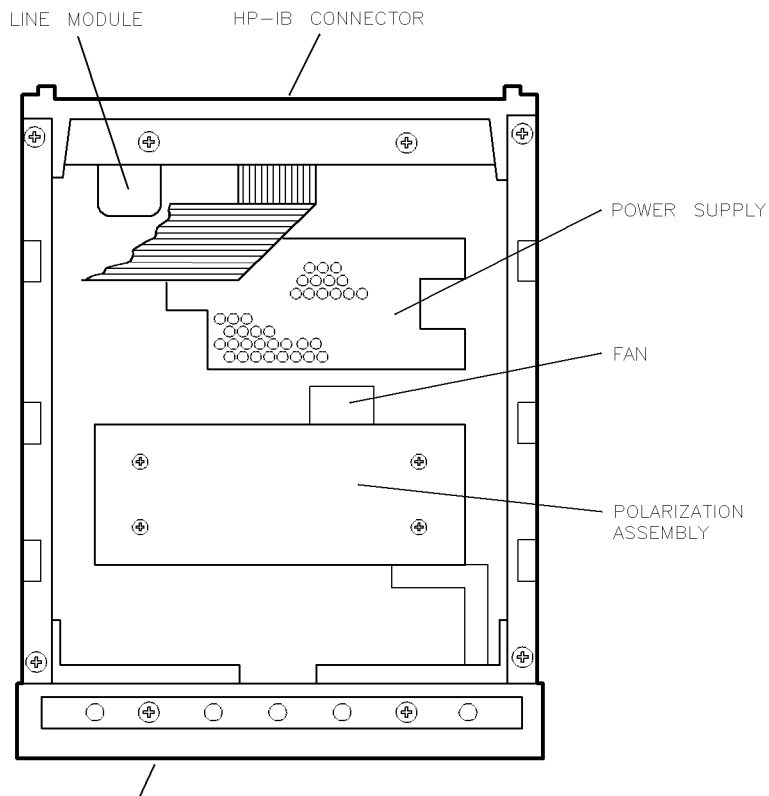

Figure 5-1. HP 11896A assembly level replaceable parts.
- Locate the desired assembly in Figure 5-1.
Refer to Figure 5-1 for the location of the assembly level replaceable parts.